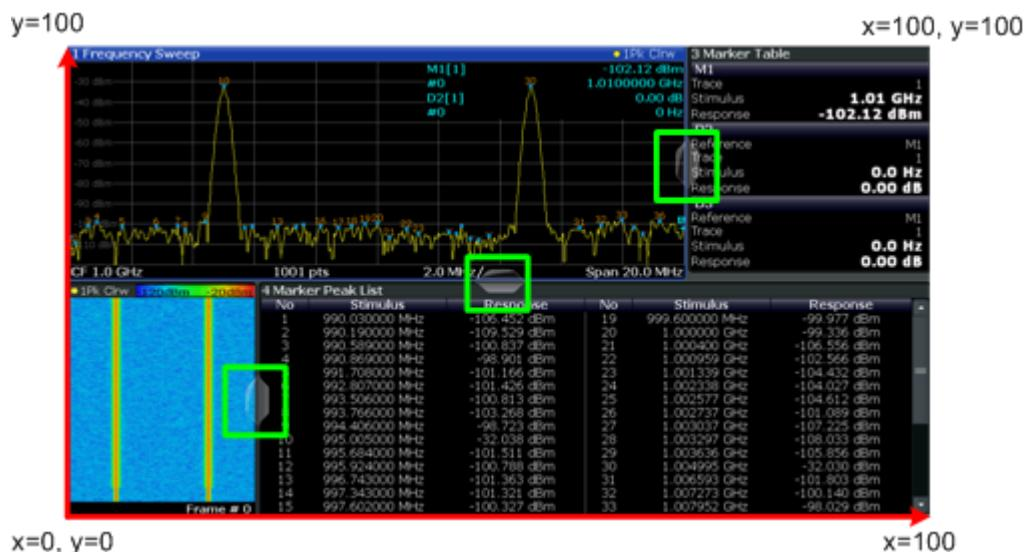

Fig. 8-1: SmartGrid coordinates for remote control of the splitters
- <Position> New vertical or horizontal position of the splitter as a fraction of the screen area (without channel and status bar and softkey menu). The point of origin ($x = 0, y = 0$) is in the lower left corner of the screen. The end point ($x = 100, y = 100$) is in the upper right corner of the screen. (See figure 8-1.)